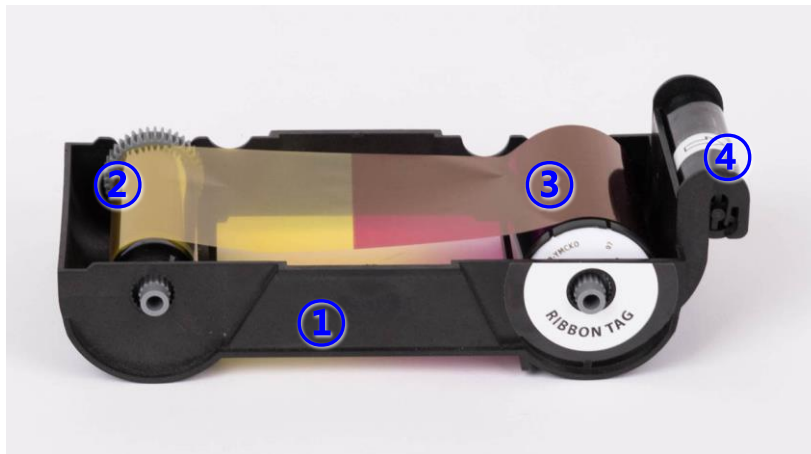

Figure 7 Ribbon cartridge features
- ① Ribbon cartridge
- ② Take up parts
- ③ Supply parts
- ④ Disposable cleaning roller
① Ribbon cartridge
② ③ Take up & Supply parts
- Ribbon is wrapped to the supply parts as the Picture. It should be installed as the Figure.7
④ Disposable cleaning roller